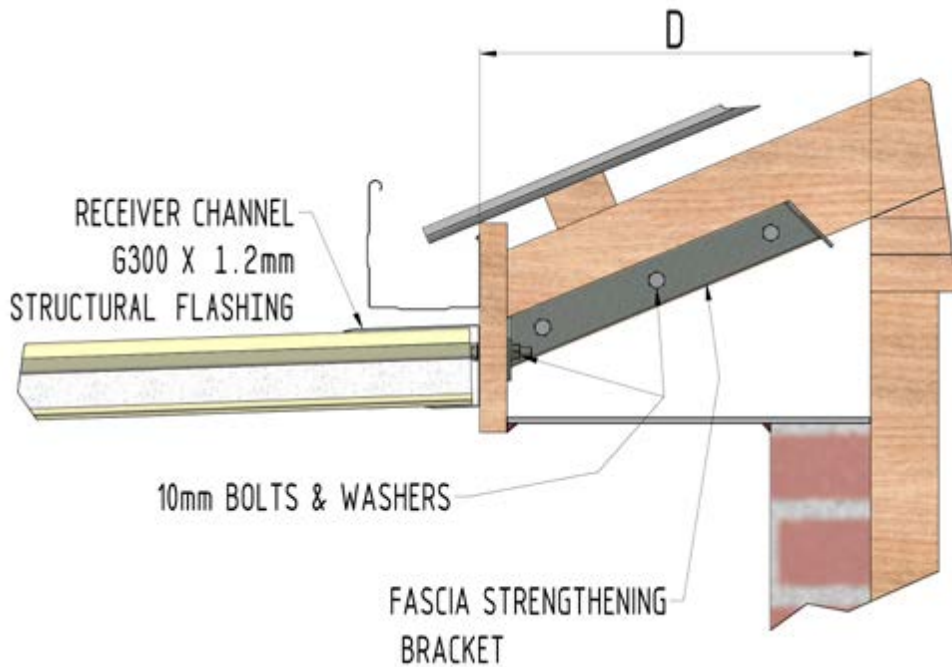

Figure A30
**Roofing to Timber Fascia (see Figure A30)**